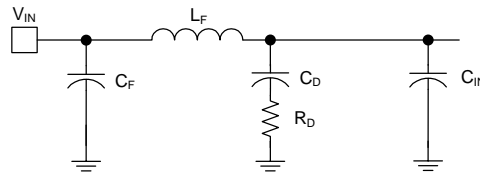

Figure 29. Input EMI Filter
Referring to Figure 29, the purpose of R_D is to reduce the peak output impedance of the filter at the cutoff frequency. The capacitor C_D blocks the DC component of the input voltage, and avoids excessive power dissipation on R_D . The capacitor C_D should have lower impedance than R_D at the resonant frequency, with a capacitance value greater than 5 times the filter capacitor C_{IN} . This will prevent it from interfering with the cutoff frequency of the main filter. Added damping is needed when the output impedance is high at the resonant frequency (Q) of filter formed by C_{IN} and L_F is too high):